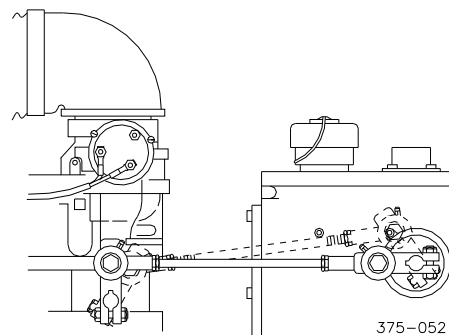

Figure 2. Carburetor Compensating Linkage
4. Carbureted engines should have a carburetor compensating linkage (see Figure 2).